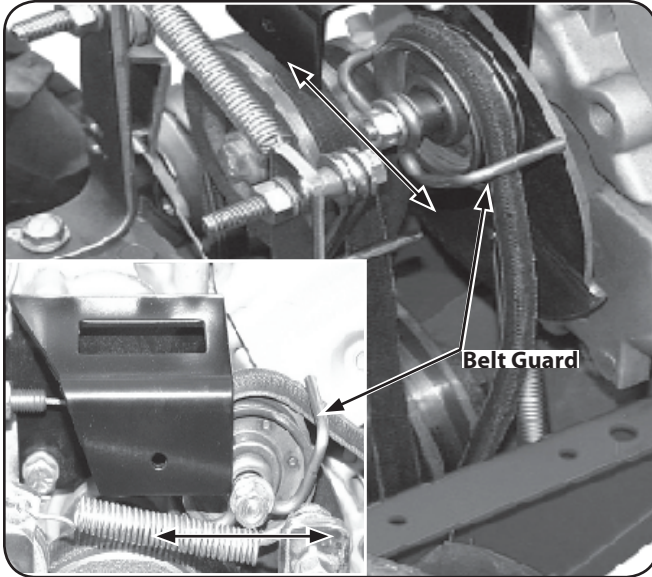

Figure 7-7
9. You will need an assistant to help with this step. Pull the reverse idler pulley up to its highest point and position the belt guide horizontally level as shown in Fig. 7-7. Securely tighten the screw and lock nut.